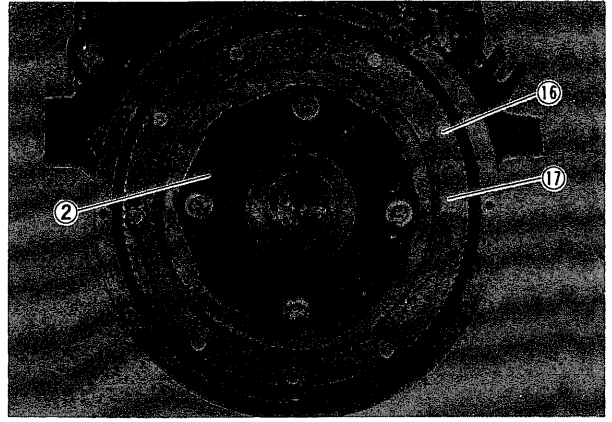

Fig. 5
- (4) Take out all gears from case. Separate bearings from gears using a puller.
- (5) Remove oils seals from each case.
- (6) Remove bolts (16), disc (17), coupling (2) as one body. (Fig. 5)